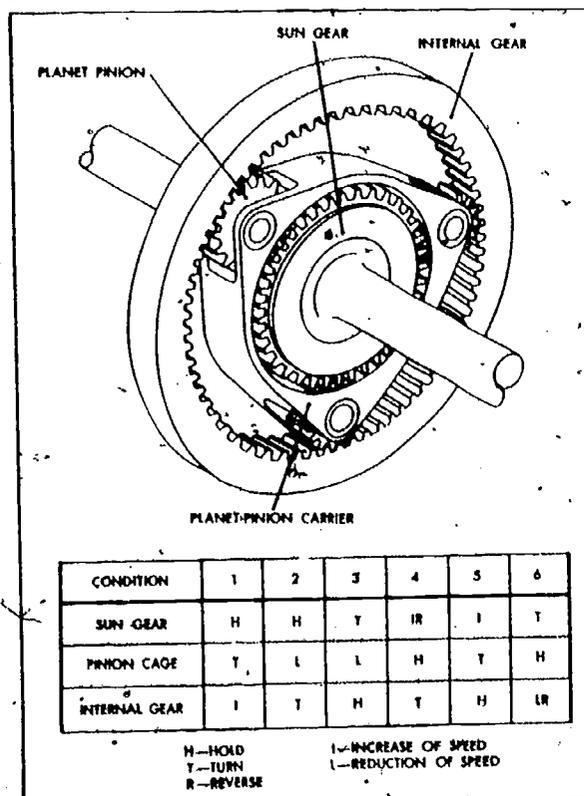
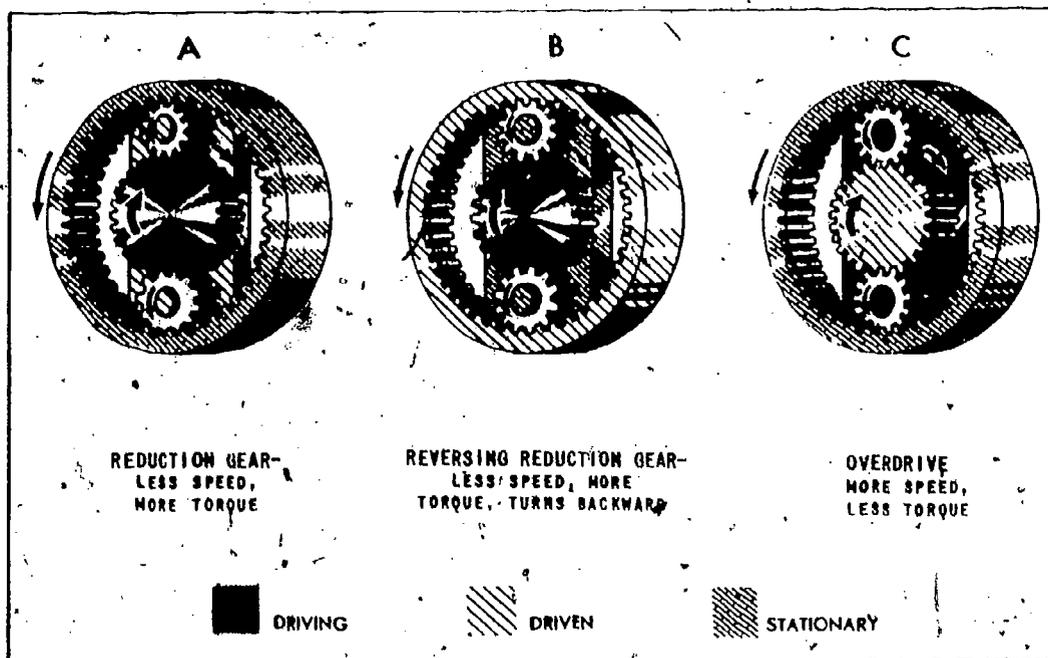
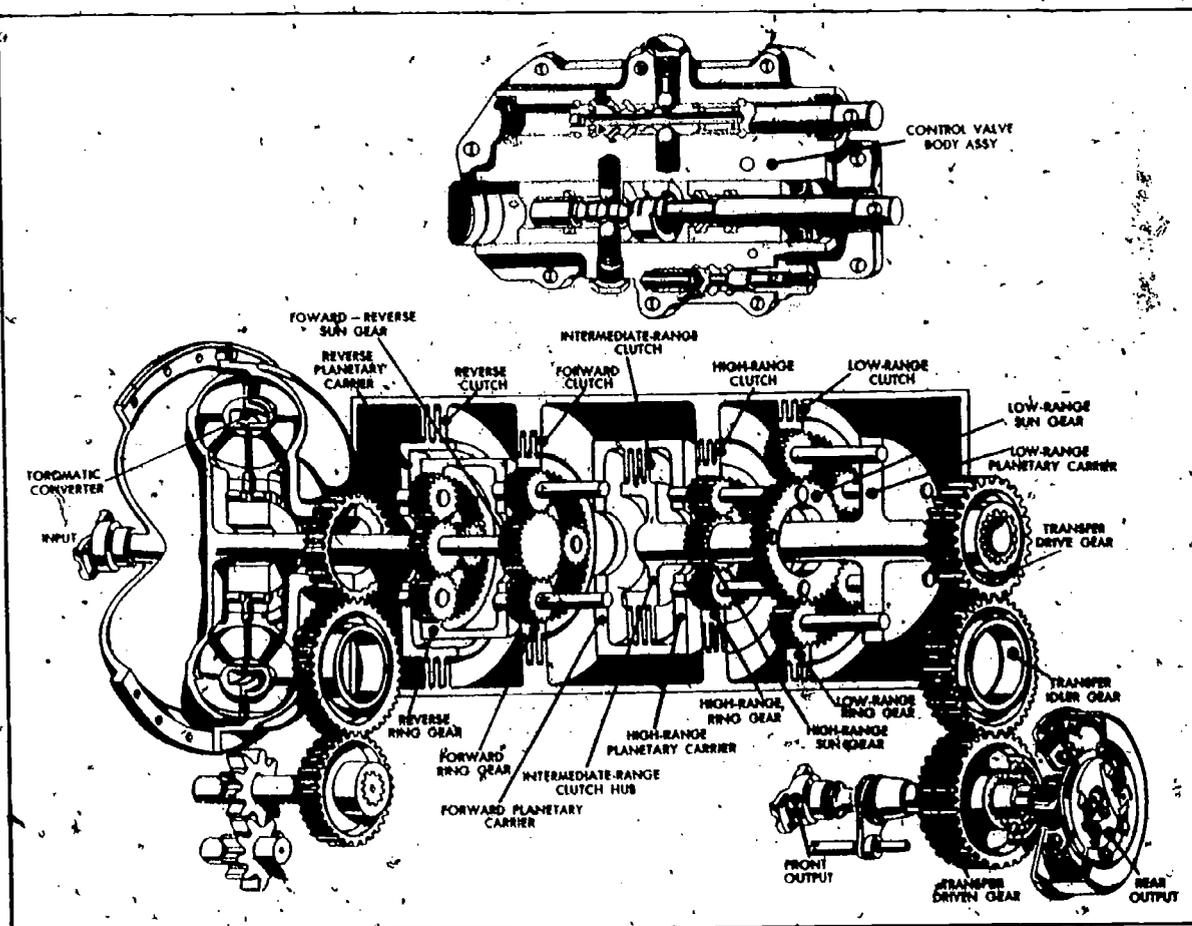

Fig 3-19. Planetary system and action chart.
Fig 3-28. Planetary output combinations.
Fig 3-29. Torqmatic transmission and selector valve assembly.
- (e) Planetary gear system (fig 3-19). This system is composed of spur gears, ring gears, shafts, bearings, and other components. Although often referred to as a planetary gear, it is a gear system. The system consists of three rotating members: the internal ring gear, the sun gear, and the planet pinion set. The planet pinion set consists of the planet pinions, the planet pinion carrier, and the planet pinion shafts and bearings. Planetary systems are used in transmissions, rear axles, and winches. The system is arranged so that gear ratios can be increased or decreased, and so that the direction of rotation can be reversed by holding one of the rotating members and turning the others. There are six possible selections for the system shown in figure 3-19. For example, in the chart (fig 3-19), if you hold the sun gear and turn the pinion carrier, you will have an increase in speed.
(1) **Principles of operation.** Earlier in this chapter you noted that a simple planetary system will provide six different conditions (three forward and three reverse speeds). Figure 3-28 illustrates the direction of rotation and how the gear ratio is affected.
As illustrated in figure 3-19 and figure 3-28, the direction of rotation and the speed of the output shaft are controlled by the size of the gears and the member that is held stationary. The torque transmission uses five clutches which are hydraulically applied and spring-released to control the planetary systems. Figure 3-29 illustrates the position of the clutches in relation to the planetary system. Oil pressure from a pump in the torque converter flows through the control valve assembly where the operator selects a range and a direction. Study the schematic and note that the reverse planet pinion cage can be held by the clutch. You should also note that the reverse ring gear and the forward planet carrier form the planet pinion cage for the forward clutch; the high-range planet carrier and the low-range sun gear form the planet pinion cage for high-range clutch. This is a compound planetary gearing system. All gears within the system remain in constant mesh; there is no need to slide the gears in and out of mesh since this can be accomplished by engaging or disengaging clutches. When the torque converter output shaft is turning, there is power available to the forward and reverse sun gears. By engaging one of the clutches, the power will be transmitted on through the planetary gearing to the range planetary systems. When one of the range clutches is engaged, the power will flow through the transfer drive gears to the output shafts.